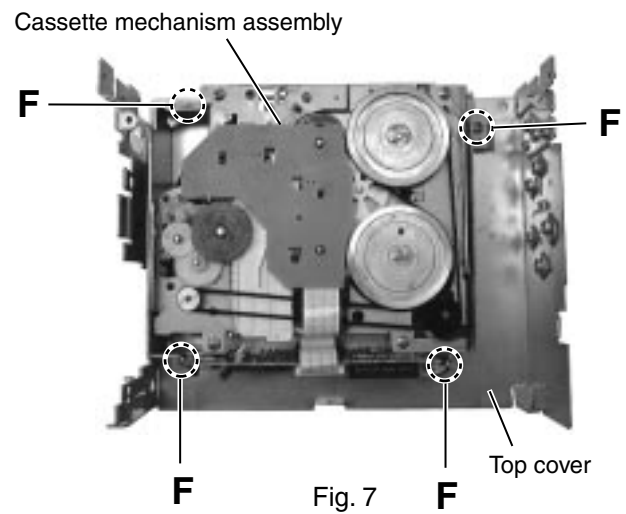

Fig. 7
■ Removing the Cassette mechanism assembly (See Fig.7)